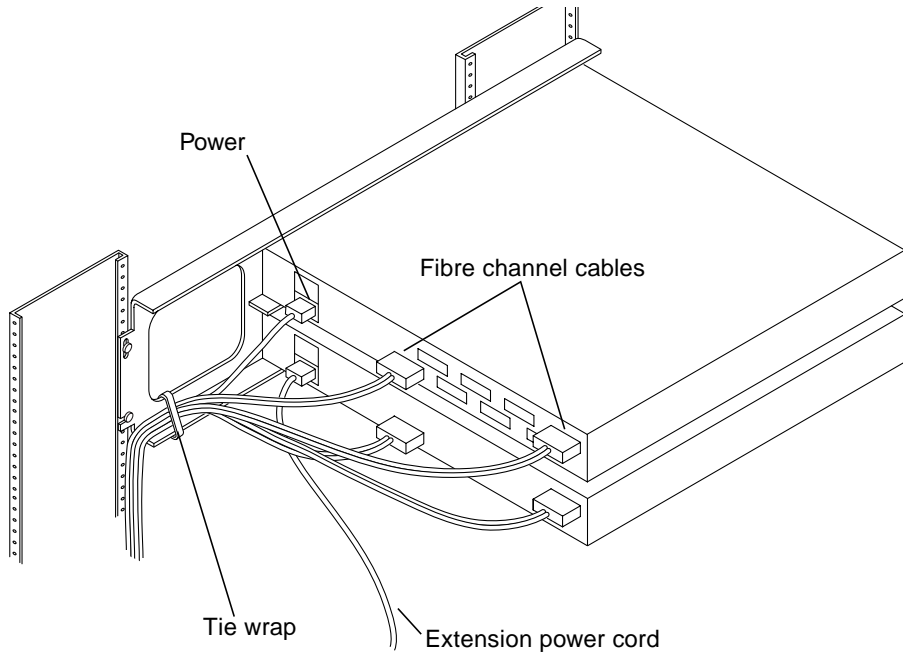
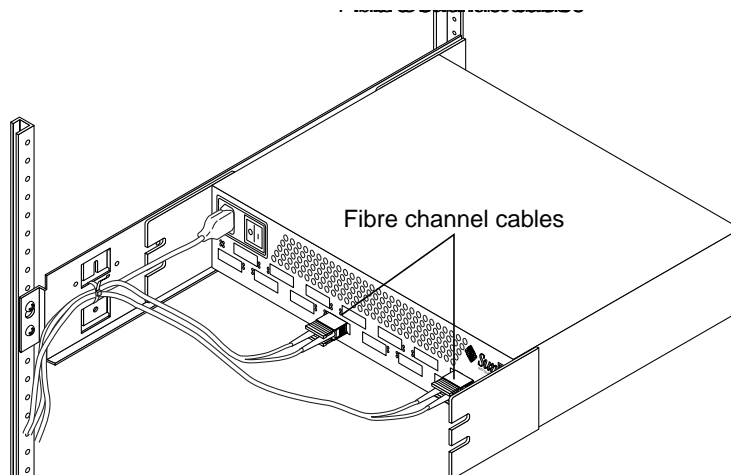

FIGURE 4-12 Cable Routing for the 8-Port Switch
FIGURE 4-13 Cable Routing for the 16-Port Switch
3. Use a tie wrap to secure the Fibre Channel cables, as shown in FIGURE 4-12 and FIGURE 4-13.